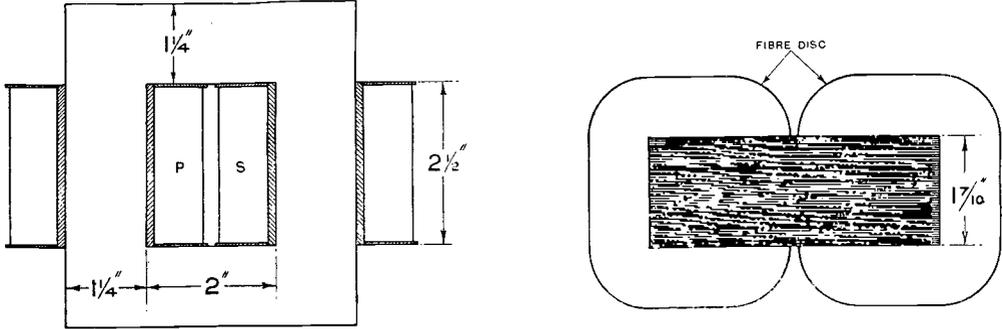

Fig. 3. Scale drawing of the transformer.
7. The area of the opening or window of the transformer being 5.0 square inches, we can arrange for the long side to be  $2\frac{1}{2}$  inches and the short side 2 inches (Fig. 3). A
the core, (Fig. 3), and the secondary winding on the other limb. Constructional details may be gathered from the drawing of the former.